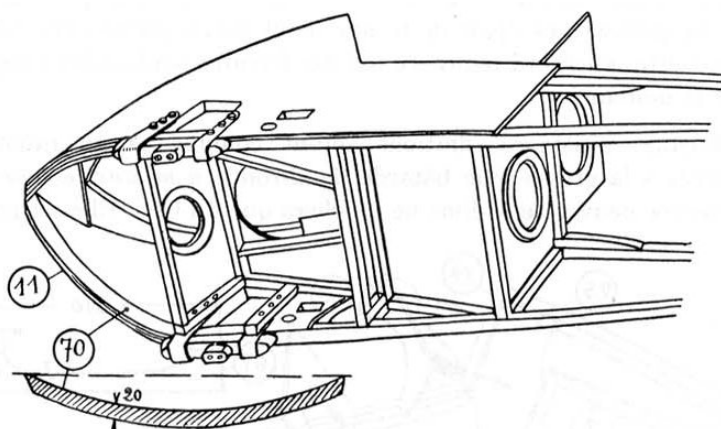
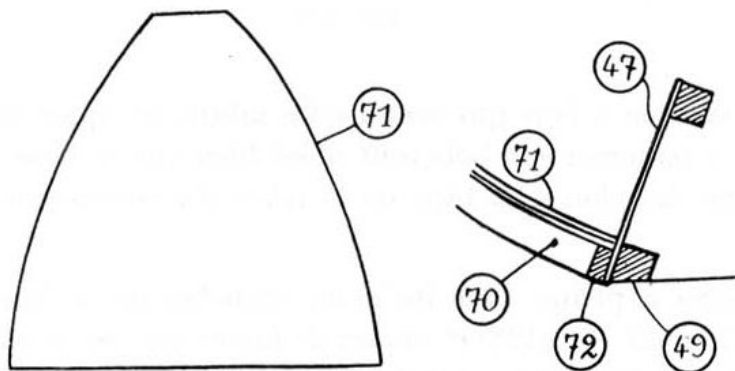

Figure 3.13: Flanges to support cabin floor
Figure 3.14: Fitting the cabin floor
Cut out a strip (70) (fig. 3.13), 25mm wide and fitted to the edge (11). Copy it 14 times in 3mm plywood. Seven thicknesses glued one after another inside each side (11) form a flange curved in both directions, on which you can nail one after the other two 3mm plywood pieces (71) (fig. 3.14), layered and glued, which will serve as the cabin floor.